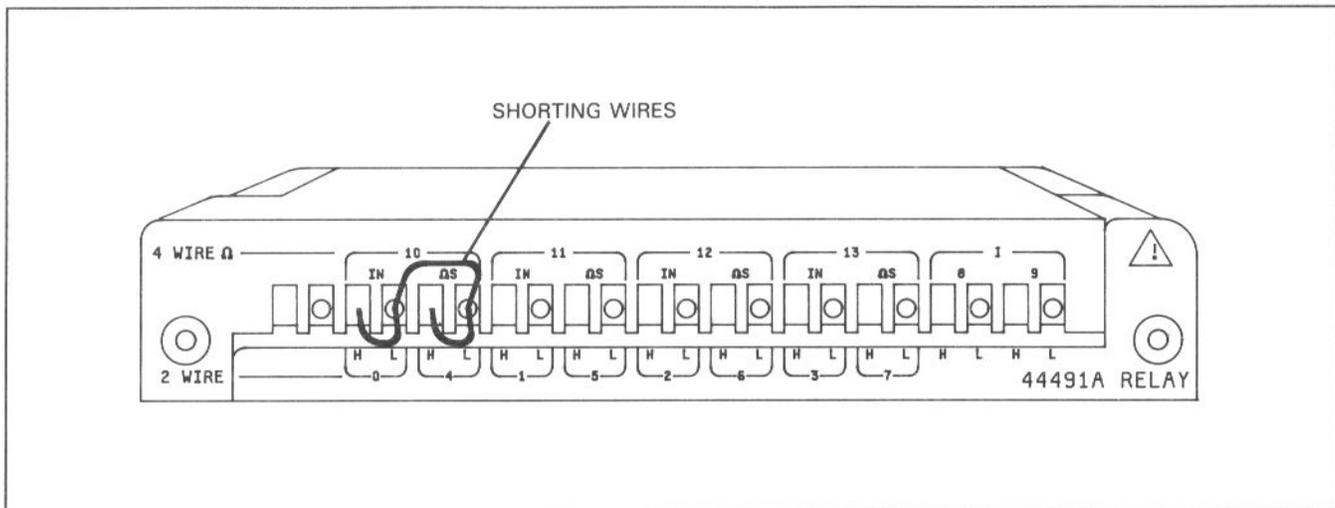

Figure 5-4. 44491A Wiring Block Connections
- d. Install copper shorting wires from INput HI to INput LO, from INput HI to Ω Sense HI, and from INput LO to Ω Sense LO on 4-Wire Ω input channel 10. Securely tighten the appropriate retaining screws. (Refer to Figure 5-4 for wire connections).